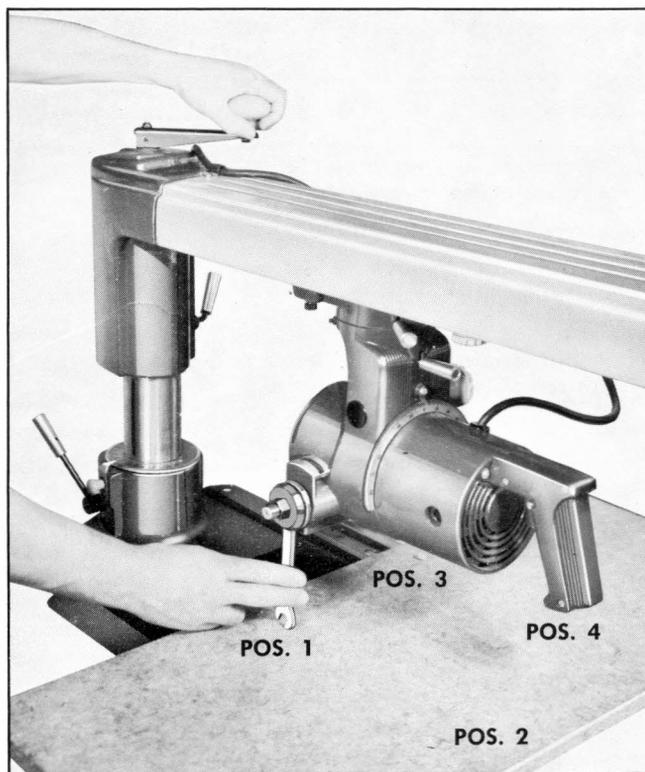

Fig. 11
1. Place wrench over shaft and hold securely with collar and arbor nut. See fig. 11.
2. Lower radial arm until end of wrench just touches the table top thus permitting the wrench to be swung back and forth. See fig. 11. Lock elevating lock handle.
4. The arm and carriage must be positioned so wrench will contact table top over the four different positions in the sequence shown in fig. 11. When wrench is located at number one position, lock arm swivel handle.